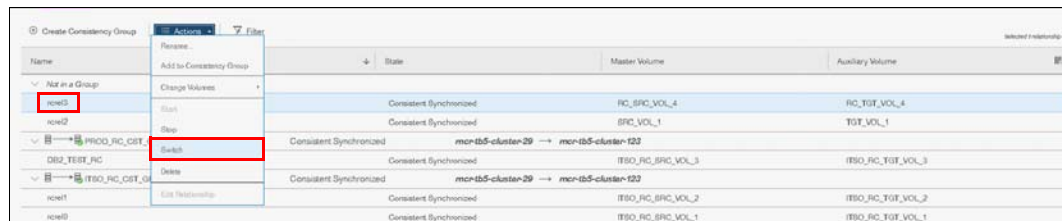

Figure 10-137 Switch copy direction action
4. Click **Actions** → **Switch** (Figure 10-137) to start the remote copy process.